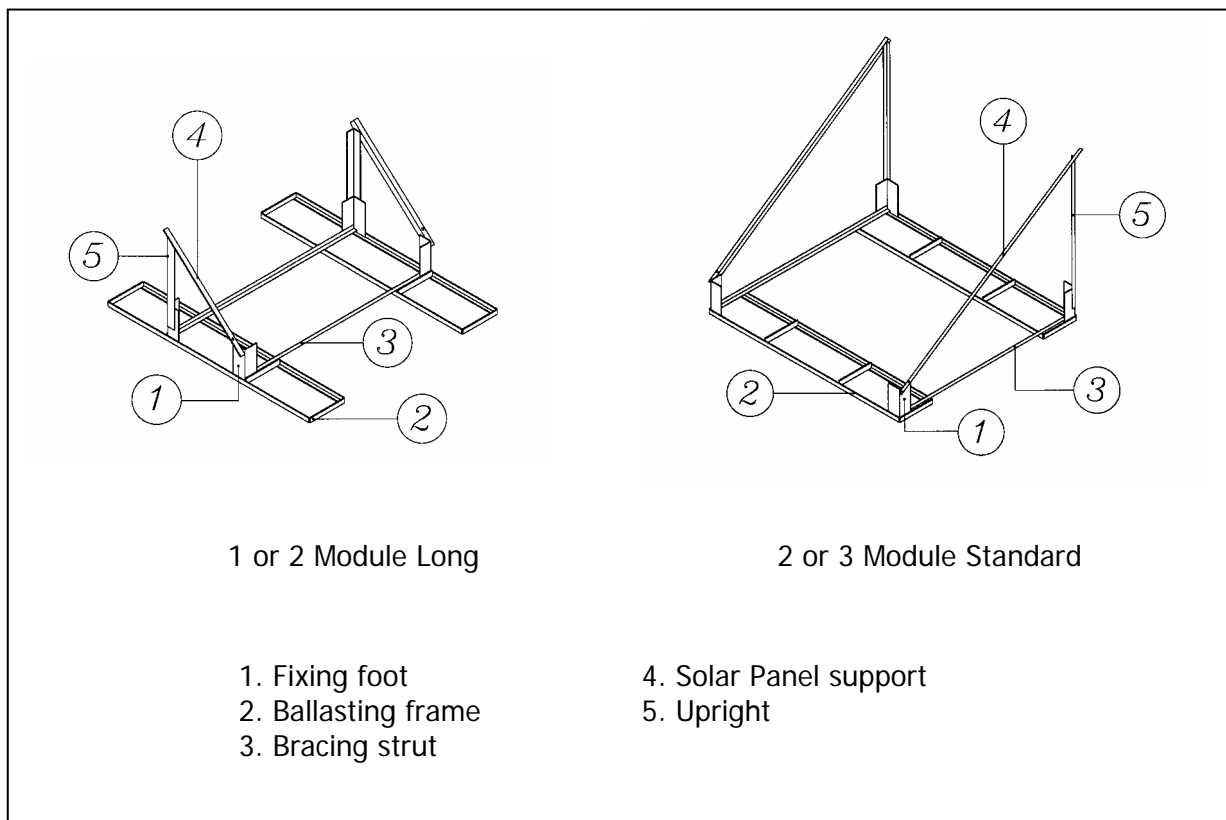

Figure 4.2
4.2.1 Assemble the relevant frame, as shown in Figure 4.2 below, using the supplied nuts, bolts and washers (additional assembly instructions may be found in the frame shipping box).